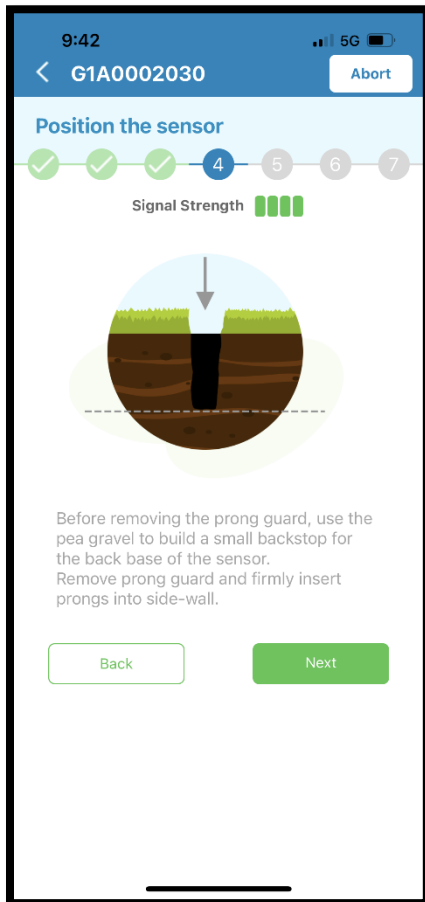
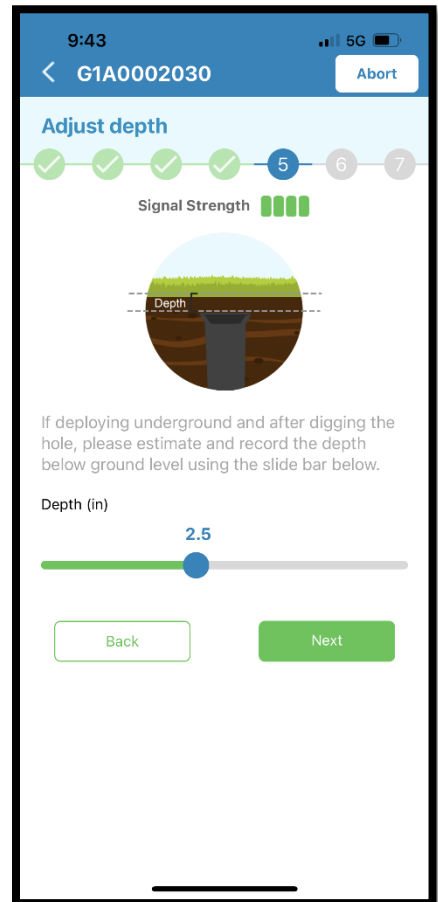

Figure 24
Figure 26
- ii. Adjust the Depth -- for Ground Level installation, the depth would be zero inches (Figure 24). For Underground installation, select the depth (Figure 26). Reminder, the depth should not exceed 6 inches.